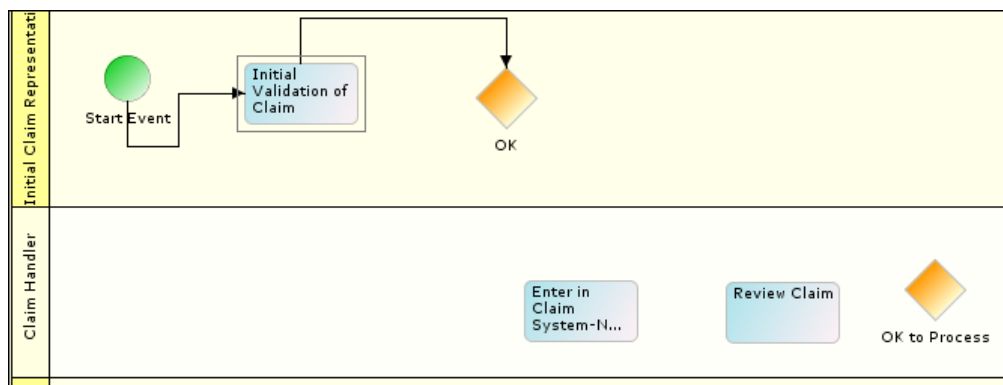

Figure 19: Connecting Workflow Elements
2. Drag the cursor between two workflow elements. Both workflow elements are connected with the selected flows (see Figure 19).